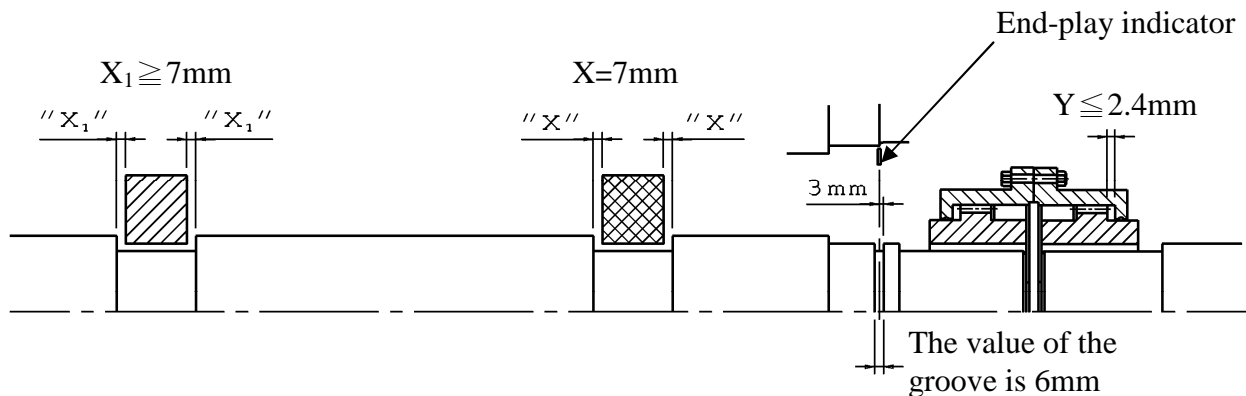

Fig. 4
- Unless otherwise specified, the designed end-play value X of the groove for TECO motors in general is within 7mm as illustrated in Fig. 4. In essence, the end-play indicator is adjusted to point at the center of the groove or the drive-end shaft shoulder; thus X equals to $7 \pm 1\text{mm}$ or so, and the end-play value (Y) of the couplings should equal or be smaller than 2.4mm.